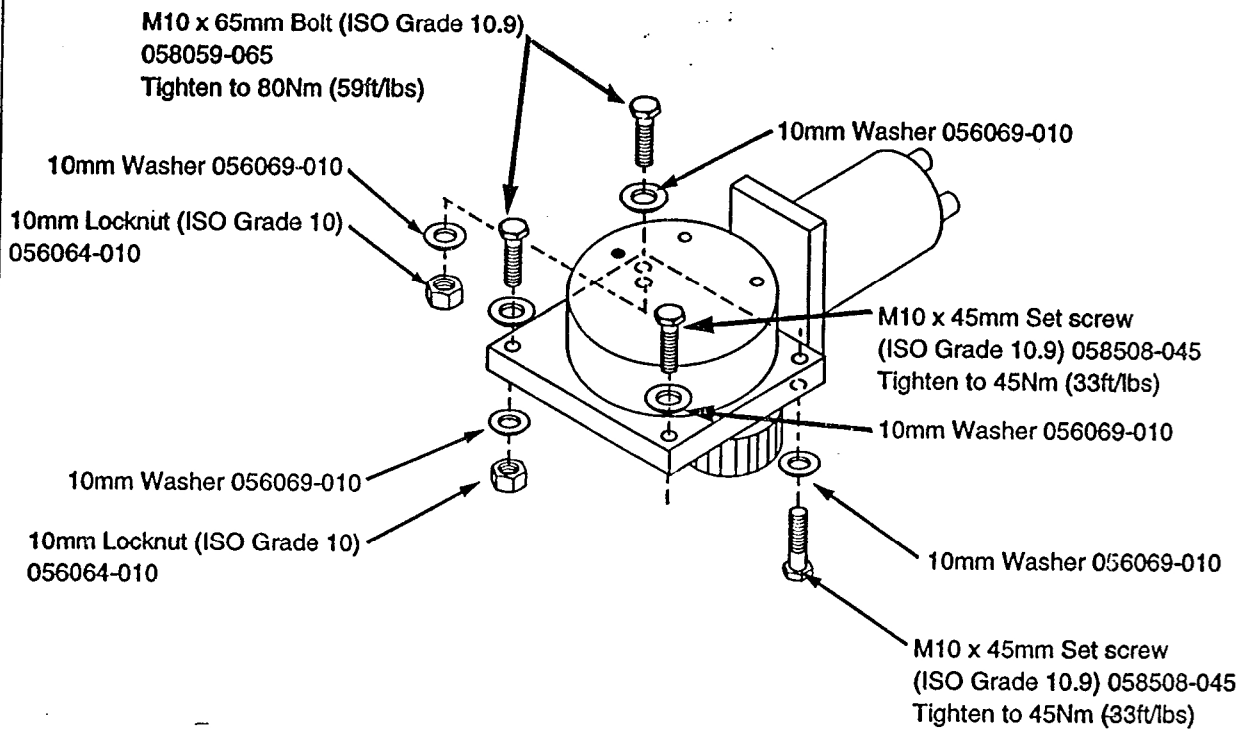

Figure 1
PROCEDURE: Read all instructions thoroughly and refer to figure 1 before starting.
2. Remove the four retaining bolts, washers and locknuts on the gearbox. See figure 1. Discard existing hardware.
3. Install supplied replacement retaining bolts, washers and locknuts as shown in figure 1.
4. Torque retaining bolts to the following ft/lbs. as listed in figure 1.